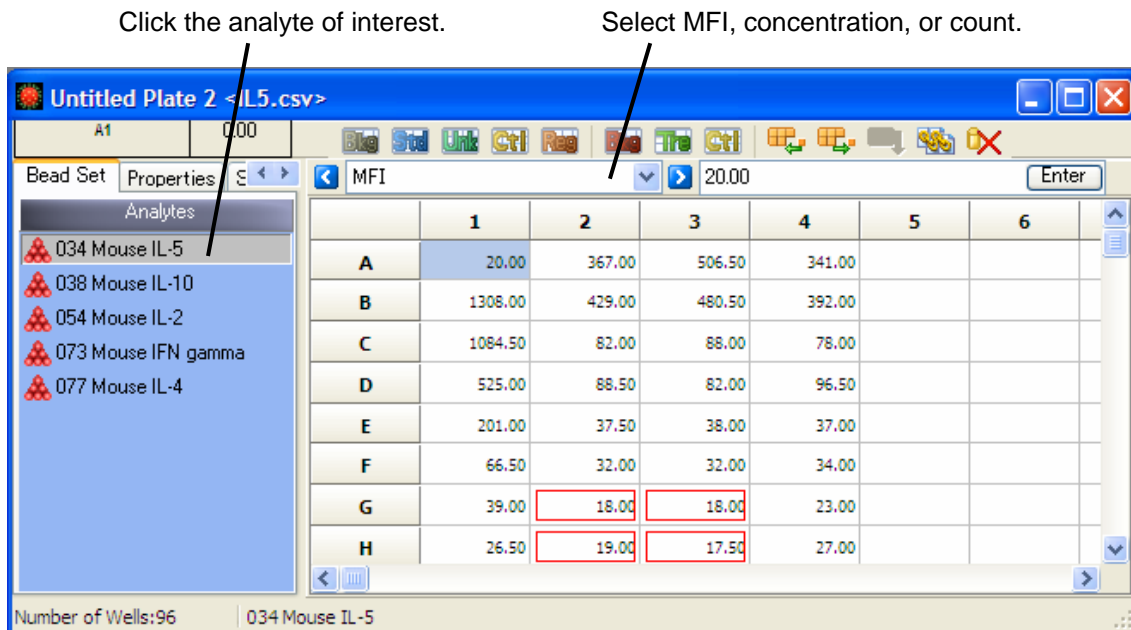

Figure 3.13 Well grid in the Plate window
1. Make a selection from the Bead Set panel (Figure 3.13).
⇒ A red border is placed around the well (Figure 3.13).